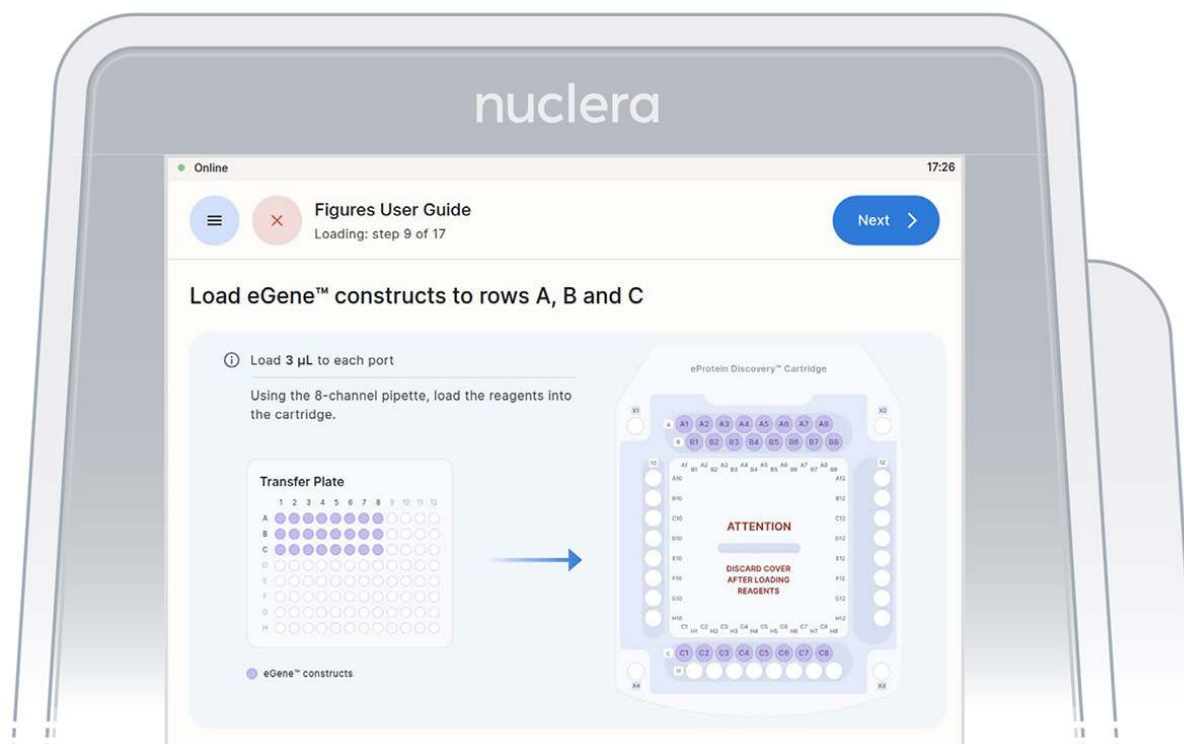

Figure 18: Loading of the eGene constructs onto row A, B and C of the cartridge
the transfer plate wells A1-A8 into ports A1-A8 of the cartridge (Figure 18).
- Load 8x fresh pipette tips and aspirate 3 μ L of the eGene constructs from the transfer plate wells B1-B8 into ports B1-B8 of the cartridge (Figure 18).
- Load 8x fresh pipette tips and aspirate 3 μ L of the eGene constructs from the transfer plate wells C1-C8 into ports C1-C8 of the cartridge (Figure 18).